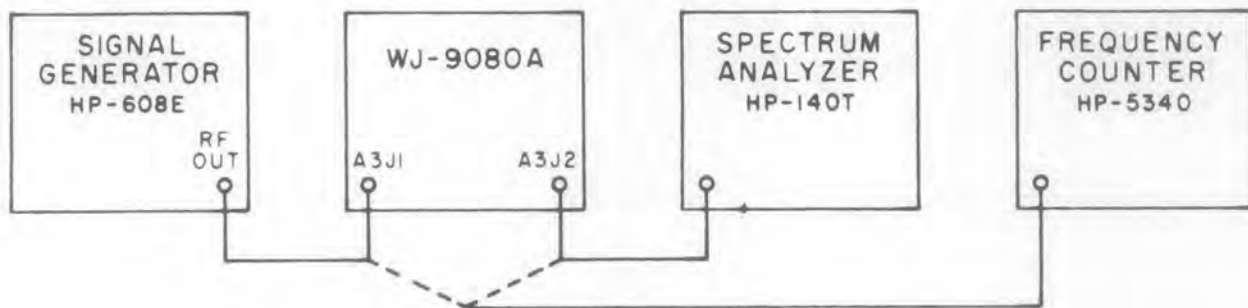

Figure 4-5. Equipment Setup, 160/21.4 MHz Converter Alignment
- (1) Interconnect the equipment as shown in Figure 4-5.